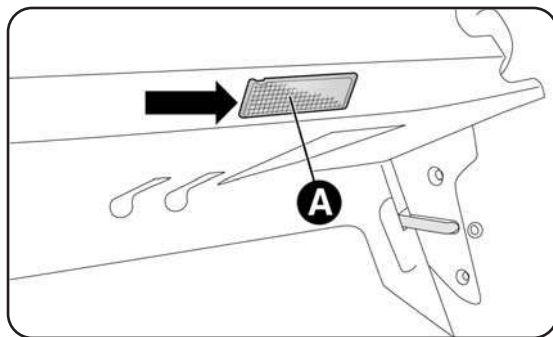

fig. 32
- remove the light A - fig. 32 applying leverage at the point shown by the arrow;